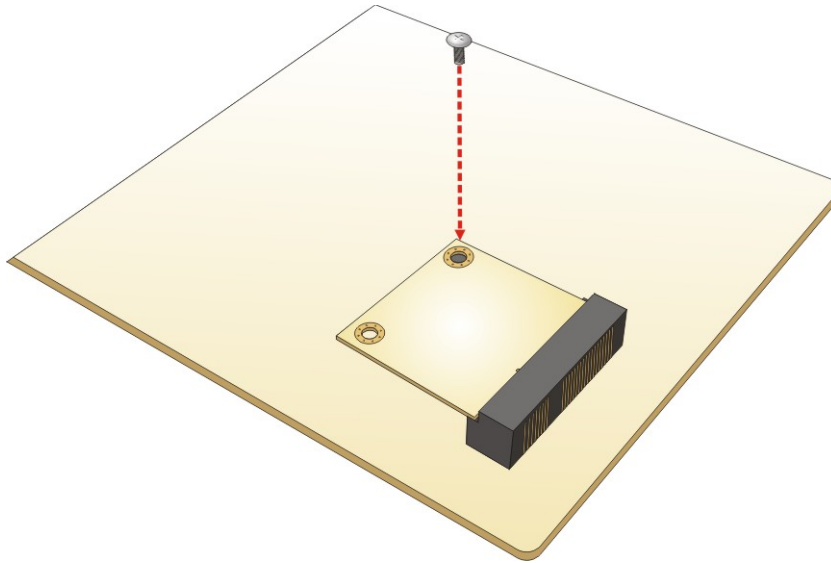

Figure 4-7: Securing the Half-size PCIe Mini Card
Step 4: Secure the half-size PCIe Mini card. Secure the half-size PCIe Mini card with the retention screw previously removed (Figure 4-7).